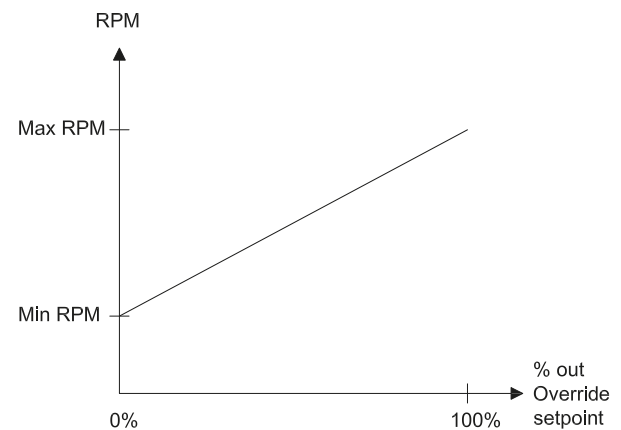
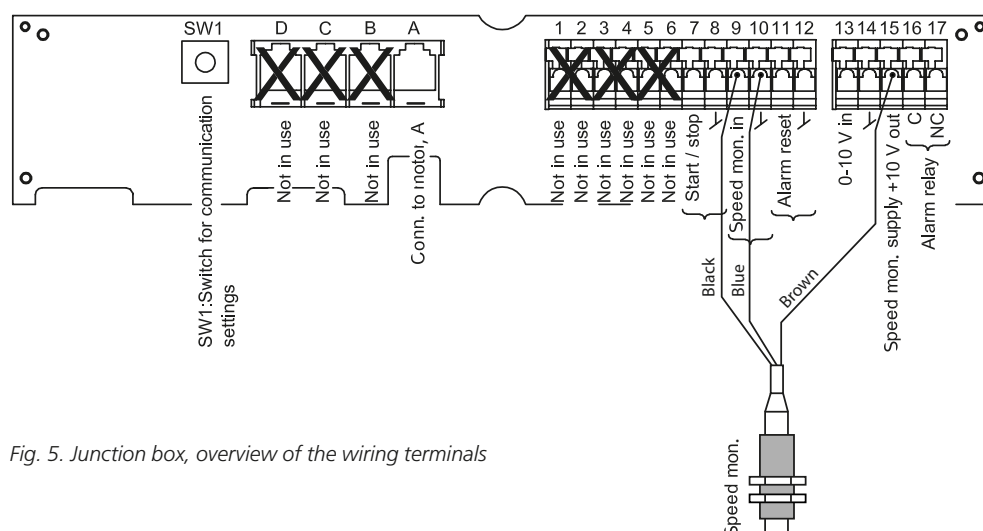

Fig. 3. The ratio between the speed and the min./max. speed setting
Fig. 5. Junction box, overview of the wiring terminals
The heat exchanger control system regulates the speed linearly between 0 % and 100 %, however it is limited to the regulation range between the preset lowest and highest speeds (See Fig. 3) 100 % speed is defined as an input voltage of "0-10 V in" (Terminal 13) at 9.5 V (100 % at 9.5 V, +/- 2 %).
- Connect the 0 – 10 V DC control signal from an external regulator in the junction box to Terminals 13 (0 - 10 V in) and 14 (See Fig. 5). The heat exchanger control system regulates the speed in a capacity linear manner between 0 % and 100 % (100 % at 9.5 V +/- 2 %), however according to the preset times for up ramp and down ramp, and limited to the regulation range between the preset lowest and highest speeds (See Fig. 3 and 4). The "Control with 0-10 V DC" function is described in Section 3. Function.
- Connect the start/stop signal cable leads in the junction box to Terminals 7 (Start/stop) and 8 (See Fig. 5). This should be a potential-free digital contact. The "Start-/stop" function is described in Section 3. Function.
- Connect the Alarm Reset signal cable leads to the heat exchanger control system's junction box to Terminals 11 (Alarm reset) and 12 (See Fig. 5). This should be a potential-free digital contact. The "Alarm Reset" function is described in Section 3. Function.
- The heat exchanger control system is equipped with an alarm relay output with normally-open contact function in the event of a malfunction or alarm. The alarm signal cable is marked "Alarm relay", and should be connected in the junction box to Terminals 16 (C) and 17 (See Fig. 5). This should be a potential-free digital contact. The "Alarm Relay" function is described in Section 3. Function.
- Connect the sensor cable of the rotation monitor to Terminals 9 (digital in), 10 (See Fig. 5) and 15 (+10 V out, power supply to sensor).
There is no in-operation signal	Short-circuit Terminals 7 and 8 in the heat exchanger control system junction box marked  (GND) and "Start/Stop" (Fig. 5).
There is no 0 – 10 V DC control signal	Check that the 0 - 10 V DC control signal is correctly connected to Terminals 13 and 14 in the heat exchanger control system junction box marked  (GND) and "0-10 V in" (Fig. 5).
The motor has been stopped by the internal protective motor switch 3 times due to overloading or some other alarm.	Reset the alarm by short-circuiting Terminals 11 and 12 in the heat exchanger control system junction box marked  (GND) and "Alarm reset" (Fig. 5). You can also reset the alarm by switching off the supply voltage to the heat exchanger control system and switching it back on after 60 seconds.